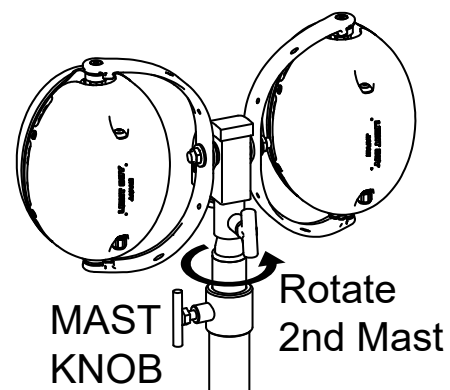

Figure 9. Rotating the Mast
1. Unscrew the mast knob to release the mast for rotation (Figure 9).